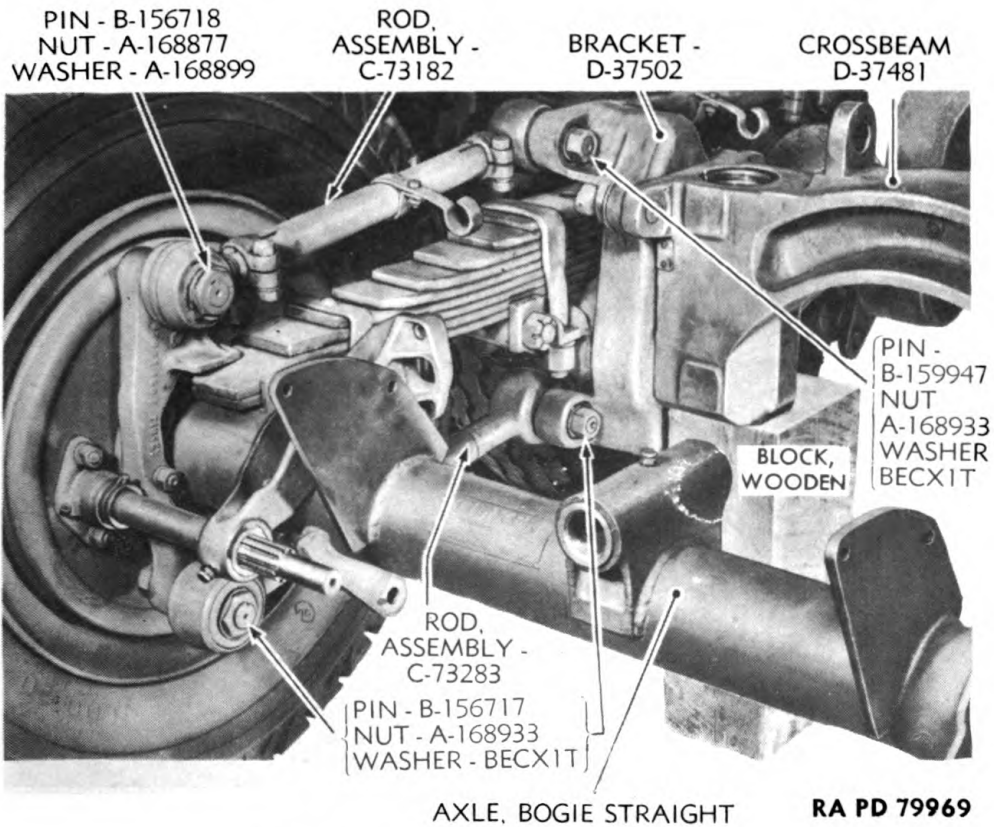
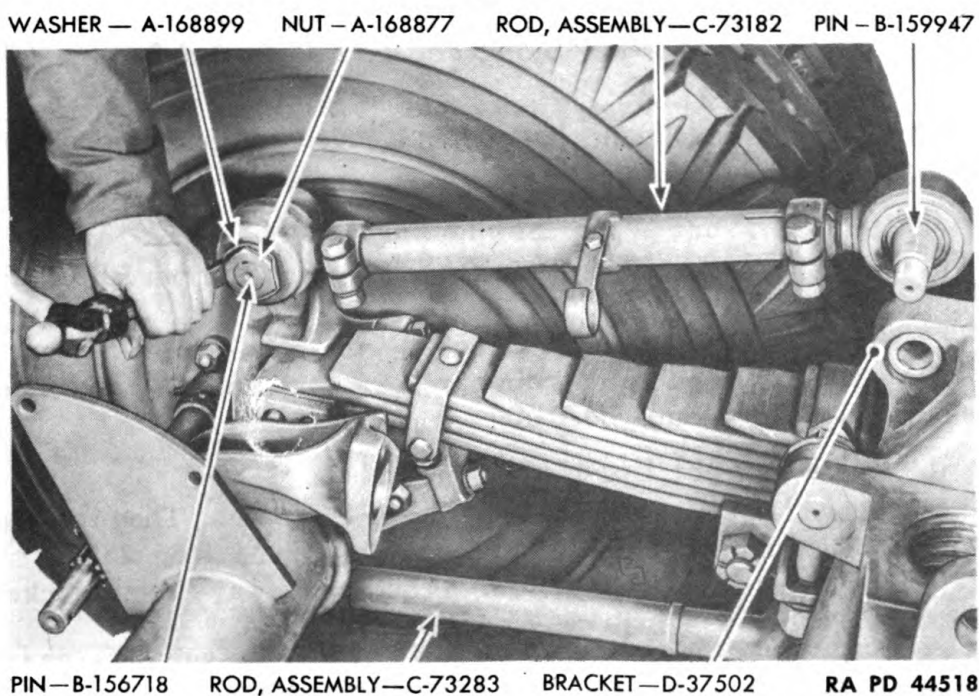

Figure 253—Bogie Torque Rods
Figure 254—Straightening Washer
- (1) Place large wood blocks under bogie crossbeam. Then remove nut A168933 and washer BECX1T from pin B159947 (fig. 253).
- (2) Pry rear end of top front torque rod away from bracket D37502. Pin B159947 will come away in torque rod.
- (3) Free nut A168877 by straightening washer A168899 (fig. 254). Remove nut and washer from pin B156718.
- (4) Tap torque rod assembly C73182 from pin.
(1) Remove nut A168933 and washer BECX1T from lower rear pin B156717 (fig. 253). Pry rear end of lower front torque rod assembly C73283 from bracket D37502. Pin B156717 will come away in torque rod.
(2) Repeat procedure as described in step (1) above to loosen other front lower torque rod. **NOTE:** The two lower front torque rods can be removed before the bogie straight axle is removed from bogie. It is easier, however, to remove them after bogie straight axle is free from bogie.